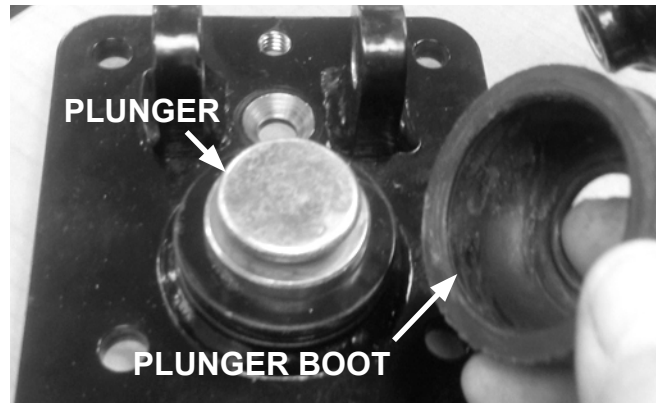

Figure 3 (Plunger & Boot Removal)
3. Remove the clevis pin, two spacers, the brake pedal and the plunger boot and set aside for reinstallation (See Figures 3).
4. Remove the plunger and discard (See Figure 3).